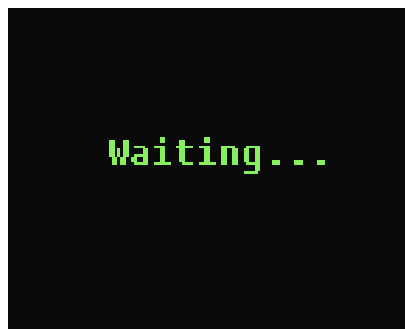

Figure 11.
- d.** When the stored data is being uploaded ,the screen displays as figure 11.